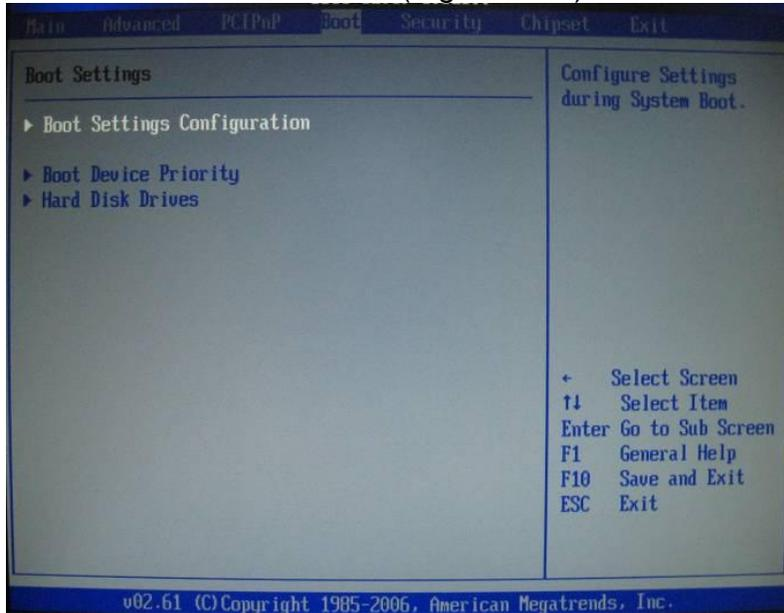

Figure 8-46 Boot Settings Screen
36. On the **Boot Settings** screen, select **Boot Settings Configuration**. Press **Enter**. (Figure 8-46).